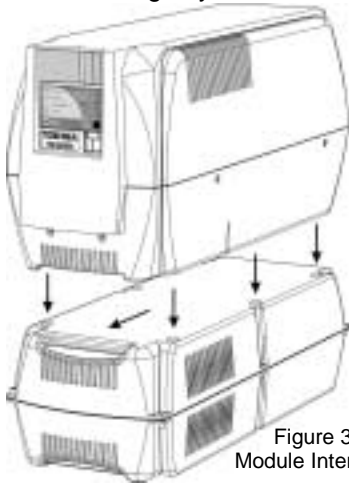

Figure 3
Step 2: Slide the upper unit forward. This will cause the two units to lock together. In order to unlock the units, lift up on the top module, and slide it back. This will release the interlock (figure 3).